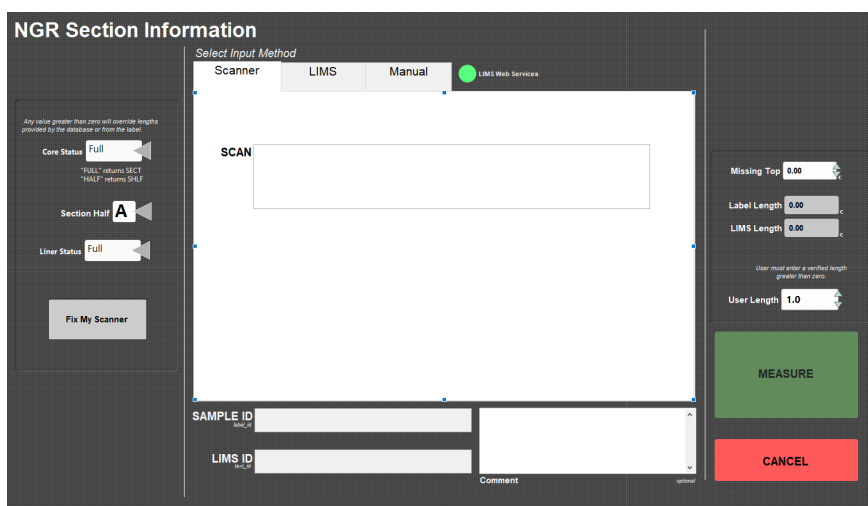

Figure 35. IMS-NGR Section Information window
3. Press the **Start** button (Figure 10) on the NGR Core Analyzer screen to initiate a run. The **Section Information** dialog window will appear (Figure 35). Use the barcode scanner to scan the section's label. Its information will be retrieved from the database; however, the user must verify the physical length of the section (**User Length**) and enter it before measurement can begin.